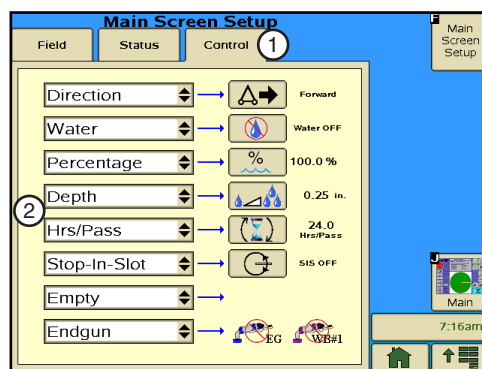

Figure 20-2 1. Control Tab
1. To set the main screen controls, Push **Setup, Main Screen Setup, Control** to display the control fields. Refer to Figure 20-2.